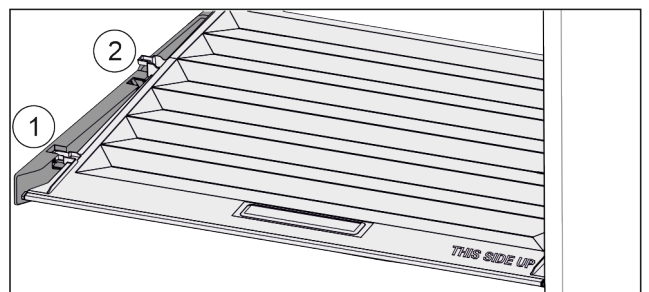

Fig. 103
- ▶ Pull the lid up at the front to the opening in the retaining parts Fig. 103 (1).
- ▶ Lift from the back and pull it up and out Fig. 103 (2).